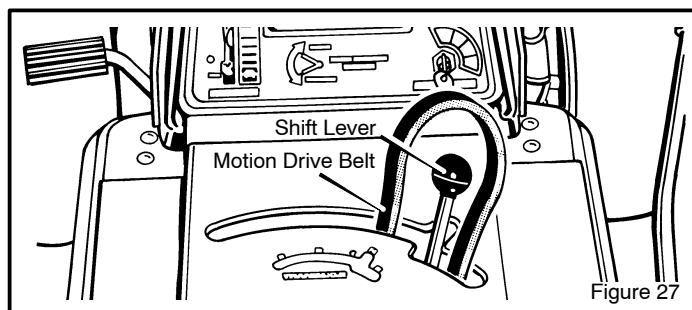

Figure 27
7. Put the end of the **motion drive belt** from the drive pulley through the hole for the **shift lever** (Figure 27). Move the **shift lever** and push the belt under the **shift lever**.
2. Push the **motion drive belt** through the hole in the frame for the **shift lever** (Figure 27). Lift the end of the belt over the **shift lever** and back down through the hole in the frame.